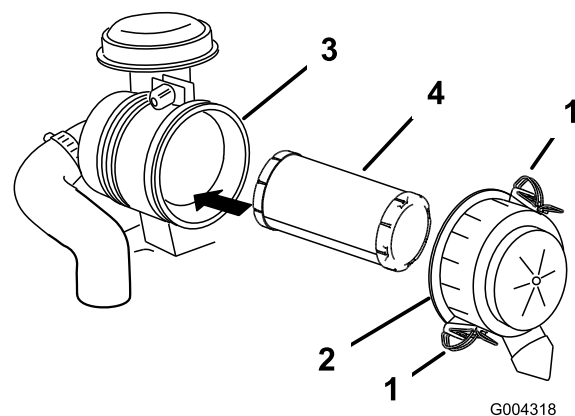

Figure 32
3. Release the latches on the air cleaner and pull the air cleaner cover off of the air cleaner body (Figure 32).
5. Gently slide the air filter out of the air cleaner body (Figure 32). Avoid knocking the filter into the side of the body.
2. Carefully slide the air filter into the body (Figure 32).
3. Install the air cleaner cover with the side indicated as **UP** facing up and secure the latches (Figure 32).